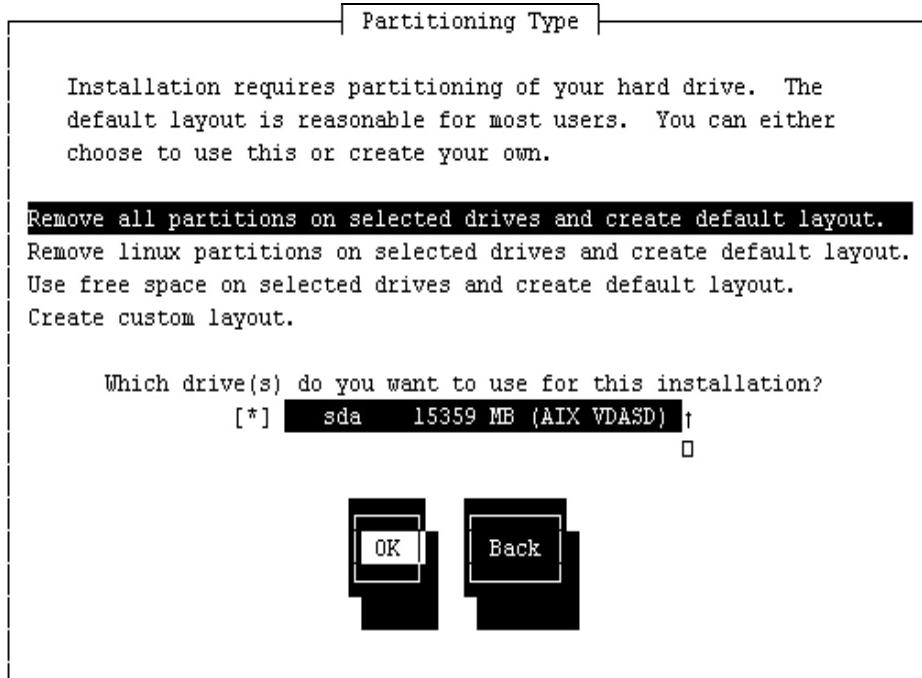

Figure 8-16 Select Partitioning Type panel
13. Select the disk partitioning type for this installation. In this scenario, we have selected the option **Remove all partitions on selected drives and create a default layout**. The drive we have selected is /dev/sda, which is the externally connected storage SAN disk that was partitioned using the IVM tools. See Figure 8-16 on page 349 as an example.